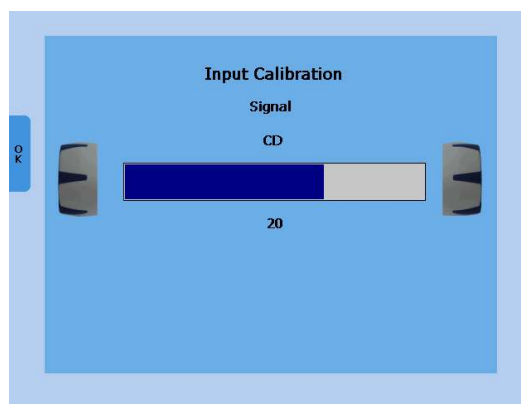

Figure 11
To calibrate the CD speech input, select CD with the signal selector key (11), (15). Press the Monitor button (6) and then InCal (19) and the calibration screen appears (see Input Calibration screen in Figure 11).